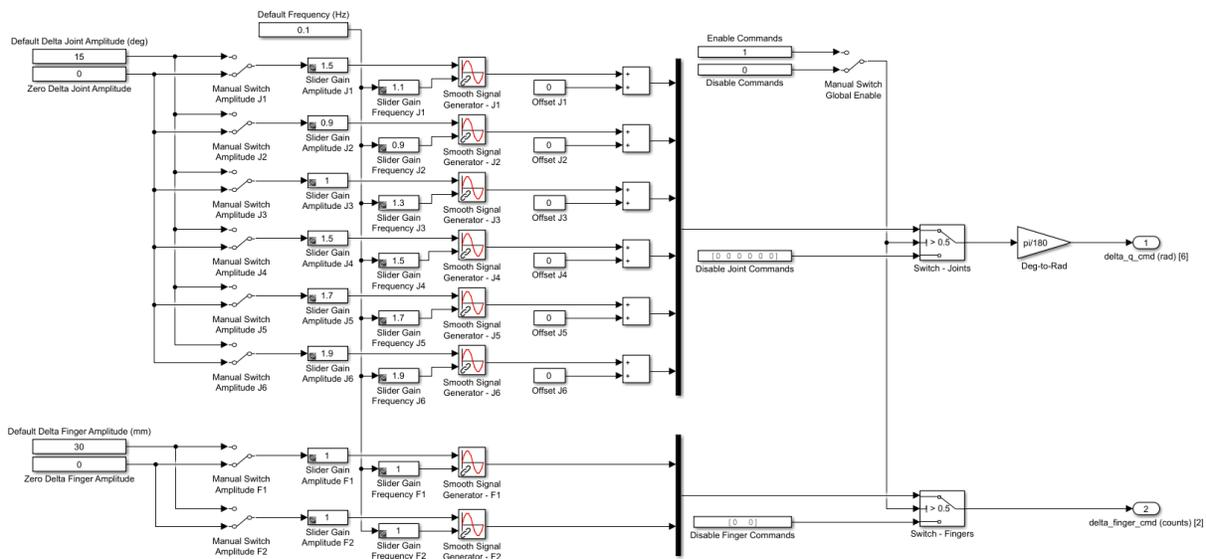

Figure 3.14: MICO\_Position\_Control\_Torque\_Mode.slx model commands
6. In the *Position Commands* subsystem, shown in Figure 3.14, set *Manual Switch Global Enable* to the enable position.